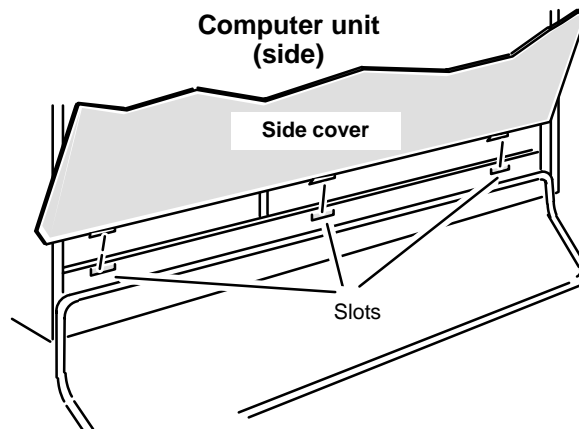

Figure 6-10 Inserting the Cover Tabs into the Computer Unit Slots
2. Insert the three tabs on the cover's bottom edge into the slots at the base of the computer unit as shown in Figure 6-10.